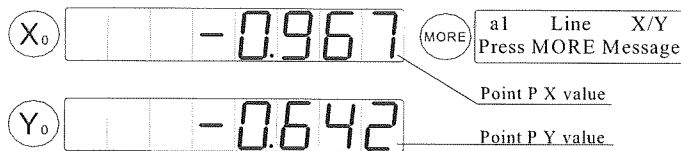
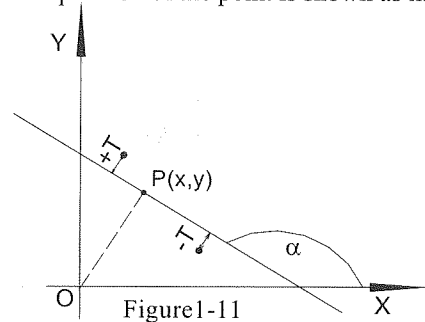

Figure 1-10
Figure1-11
- 1) The information of the point which is the nearest to the origin on the line (Figure1-10).The message displayed in the LCD indicates that a1 is a temporary feature, and the position of the point is shown as in figure1-11.